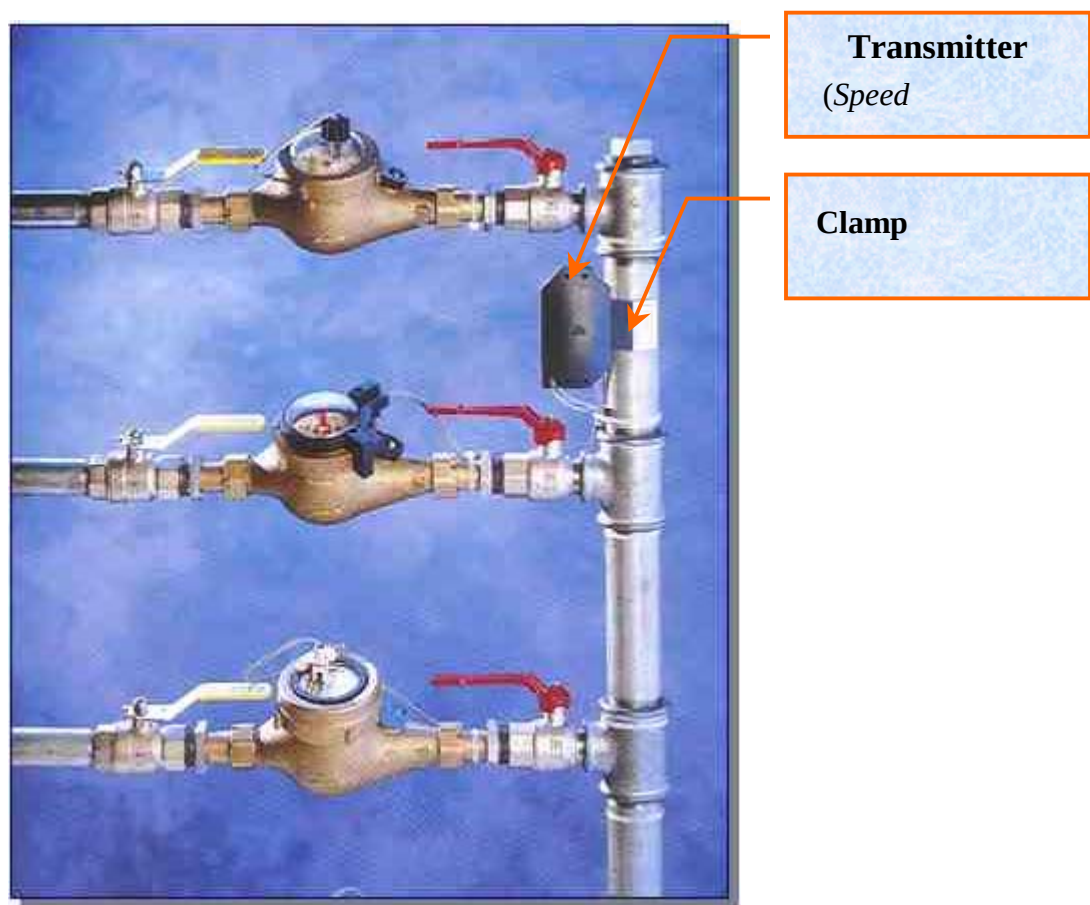

Figure 2-1: Speed HPTx Typical Installation
Figure 2-1 (see next page) shows a typical installation of a ***Speed HPTx*** unit, connected to several water meters (of various types) at a single location. The unit can be connected to any type of meter which has a pulsed output (a passive magnetic open/short reed relay), an active pulse or an encoded output.
- 3) For pipeline installations (as in Figure 2-1), first attach the stainless steel clamp (see Figure 4-1) to the pipeline, close it around the pipeline and fasten the screw in the middle of the device. Place the unit's box base on top of the screw and install it using two steel screws.